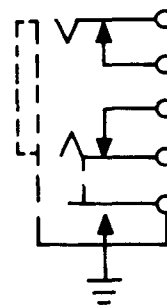

Fig. 10—511A Jack
2.10 511A: The 511A (Fig. 10) is a unit-type jack.